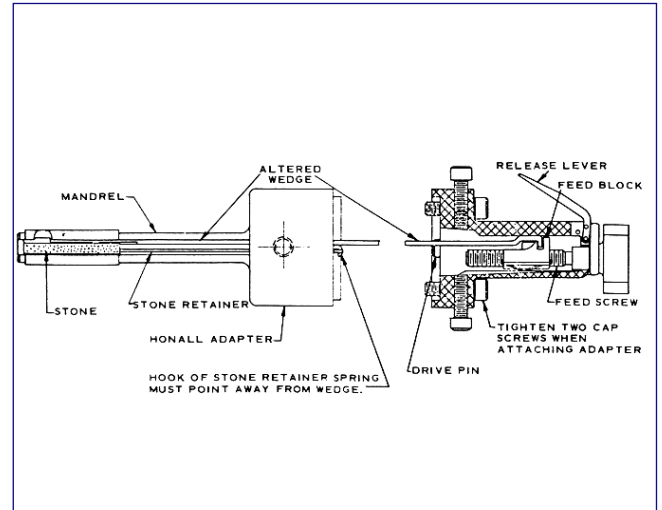

FIGURE 3, Assembly
4. Attach Adapter to P-180 with 2 capscrews as shown (see Figure 3).
5. Insert Mandrel into Adapter with Wedge and Stone Retainer side by side and tighten setscrew (refer to Figure 3).
6. Place Stone in Mandrel (refer to Figure 3).